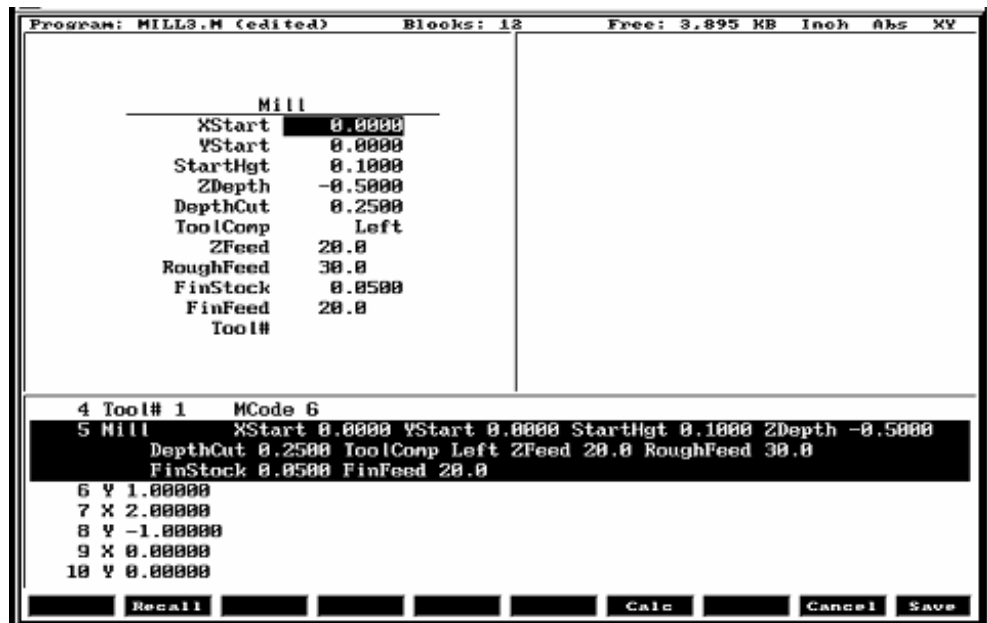

Figure 5-51, Mill Cycle Screen
1. In Edit mode, press **Mill (F5)** and **MillCyc (F1)** to display the Mill Cycle screen, **Figure 5-51**.